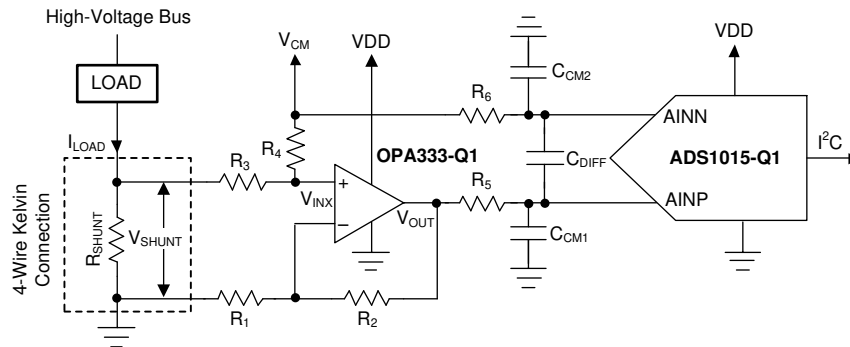

图 8-6. Low-Side Current Shunt Monitoring
Shunt-based, current-measurement solutions are widely used to monitor load currents. Low-side, current-shunt measurements are independent of the bus voltage because the shunt common-mode voltage is near ground. 图 8-6 shows an example circuit for a bidirectional, low-side, current-shunt measurement system. The load current is determined by measuring the voltage across the shunt resistor that is amplified and level-shifted by a low-drift operational amplifier, OPA333-Q1. The OPA333-Q1 output voltage is digitized with ADS1015-Q1 and sent to the microcontroller using the I²C interface. This circuit is capable of measuring bidirectional currents flowing through the shunt resistor with great accuracy and precision.
- To level-shift the ground-referenced signal to allow bidirectional current measurements while running off a unipolar supply. The voltage across the shunt resistor, V_{SHUNT} , is level-shifted by a common-mode voltage, V_{CM} , as shown in 图 8-6. The level-shifted voltage, V_{INX} , at the noninverting input is given by 方程式 3.
A shunt resistor (R_{SHUNT}) is an accurate resistance inserted in series with the load as described in 图 8-6. If the absolute voltage drop across the shunt, $|V_{SHUNT}|$, is a larger percentage of the bus voltage, the voltage drop can reduce the overall efficiency and system performance. If $|V_{SHUNT}|$ is too low, measuring the small voltage drop requires careful design attention and proper selection of the ADC, operation amplifier, and precision resistors. Make sure that the absolute voltage at the shunt terminals does not result in violation of the input common-mode voltage range requirements of the operational amplifier. The power dissipation on the shunt resistor increases the temperature because of the current flowing through the resistor. To minimize the measurement errors resulting from variation in temperature, select a low-drift shunt resistor. To minimize the measurement gain error, select a shunt resistor with a low tolerance value. To remove the errors caused by stray ground resistance, use a four-wire Kelvin-connected shunt resistor; see 图 8-6.